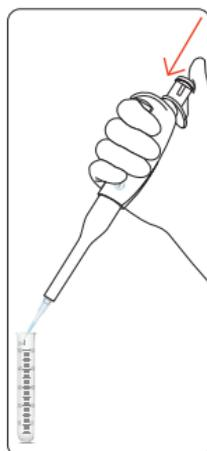

Figure 8. Dispensing Angle
3. Dispense: Place the pipette tip at an angle (10° to 45°) against the inside wall of the receiving vessel. Depress the push button smoothly to the First Stop. Wait one second. (figure 8)
3. Dispense: Place the pipette tip at an angle (10° to 45°) against the inside wall of the receiving vessel. Depress the push button smoothly to the First Stop. (figure 8)